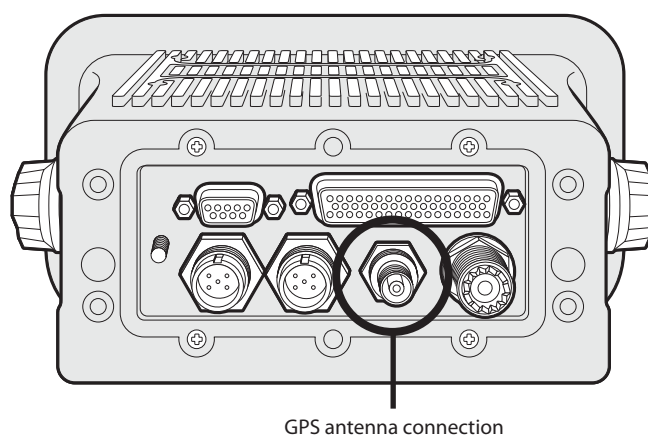

Figure 40 GPS antenna connection
- Connect the GPS antenna cable to the GPS connector on the AIS transceiver as shown in Figure 40.
If antenna connections have not already been made the GPS and VHF antennas should now be connected to the transceiver. Refer to Figure 40 and Figure 42 for guidance.